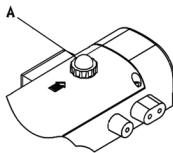

图5(Fig.5)
(1) 润滑油的注入(图5&6)
1.Filling lubricant oil :(Fig.5&6)